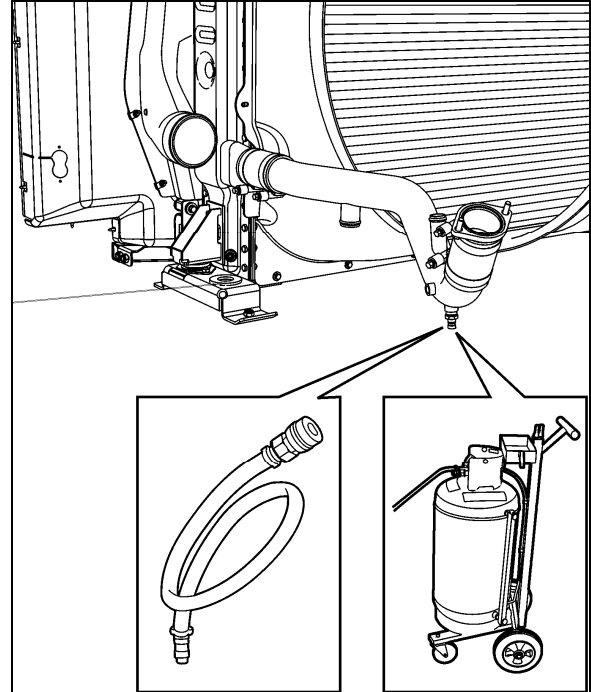

FIGURE 7: EXTRACTING COOLANT 05093
5. Connect coolant extractor (Fig. 7). Use coolant extractor to drain the coolant from the engine. An alternate method is to drain the coolant into a suitable container using the drain hose.
4. Connect coolant extractor (Fig. 7). Use coolant extractor to drain the coolant from the engine. An alternate method is to drain the coolant into a suitable container using the drain hose.